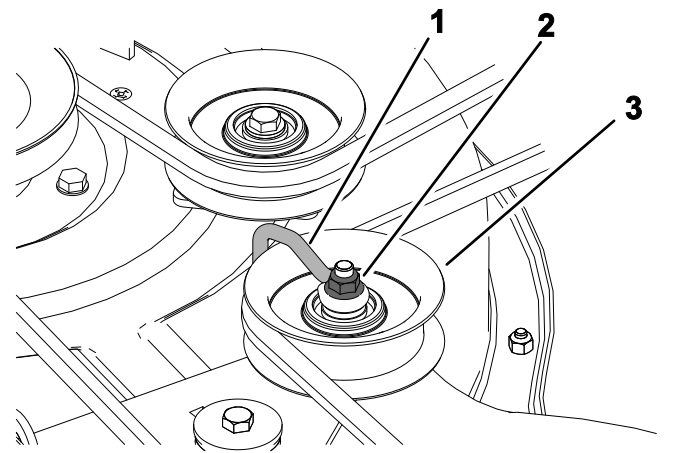

Figure 51
5. For decks with 3 blades, loosen the nut securing the wire form to the idler pulley (Figure 51).
- Note:** Position the wireform against the idler arm as shown in Figure 51.